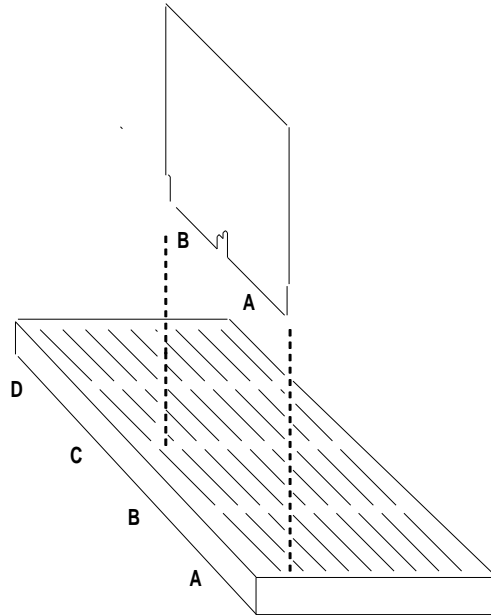

Figure 1-4: Installing the DCQ-2400 into an LSI-11 / MicroVAX II System
- 3) Insert the module into the slot as shown in Figure 1-4. Take care to ensure that the connectors are clear of any adjacent modules. Allow adequate room to connect and route the interconnect cables.